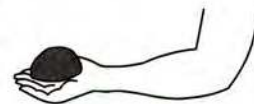

Fig. 3.15
37. Indicate the positions of load L , effort E and fulcrum F in the forearm shown alongside in Fig. 3.15. Name the class of lever.